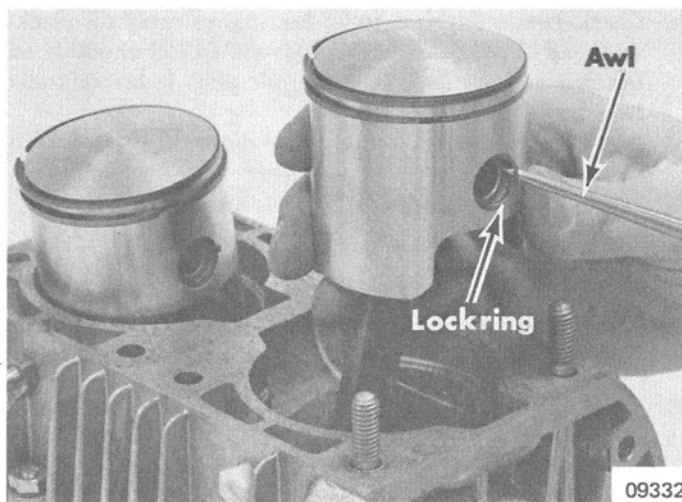

Figure 6. Removing Piston Pin Lockrings
2. Remove piston pin lockrings from pistons with an awl or other suitable tool. (Figure 6) Use caution not to mar piston skirt during removal of lockrings.